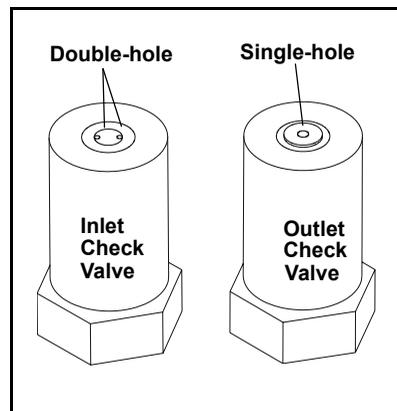

Figure 5-10. Pump Heads
4. Disconnect the tube fittings from the inlet and outlet check valve assemblies on the primary pump head (see Figure 5-10).
3. Locate the open end wrench (P/N 014605) provided in the ICS-2000 Ship Kit (P/N 057905). Use the wrench to remove the two acorn nuts (see Figure 5-10) from the pump head.